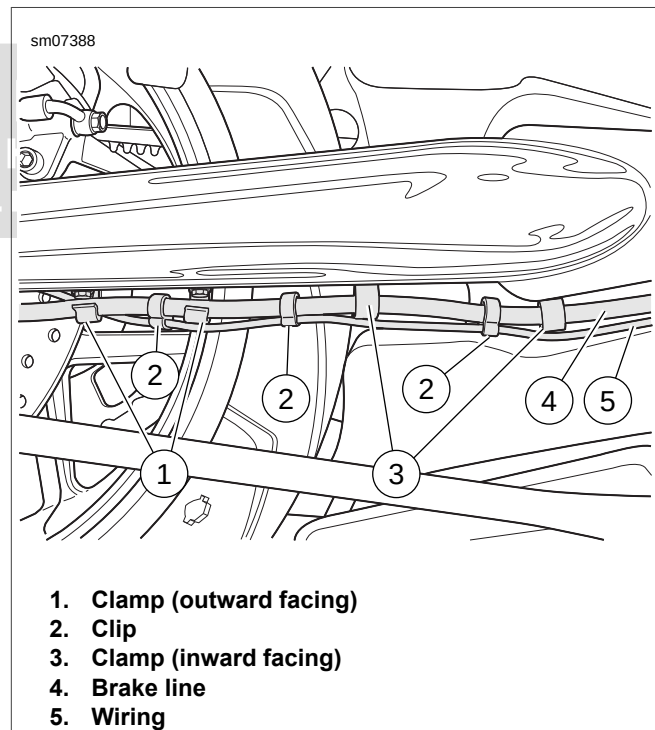
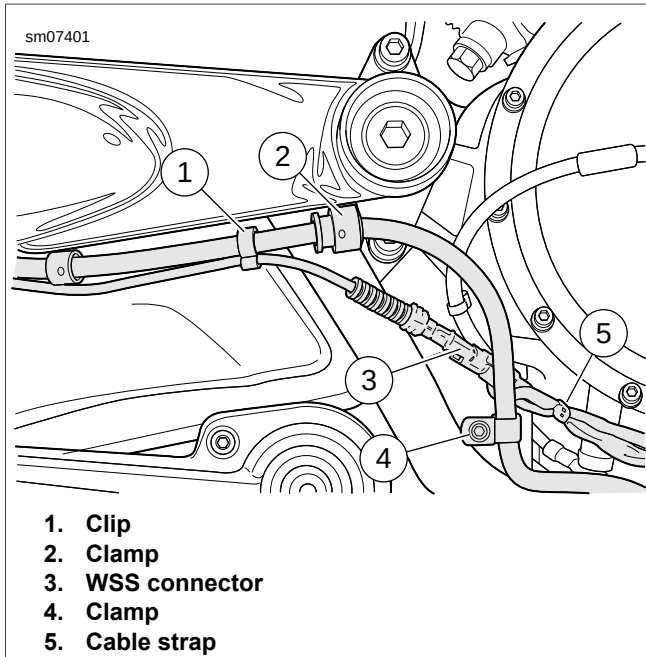

Figure C-17. Brake Line (Rear Fork)
Figure C-18. Wheel Speed Sensor (WSS) Connector
4. See Figure C-17. Route brake line (4) and wiring (5). Attach to rear fork as shown. Clamps (1) face away from vehicle and clamps (3) face towards vehicle.
6. Attach clips (2) as shown.
7. See Figure C-18. Install clamp (2). Tighten clamp fastener to 5-7 Nm (44.2-61.9 **in-lbs**).
8. Attach clip (1).
9. Install brake line in clamp (4) using clamp fastener. Tighten to 6-10 Nm (53.1-88.4 **in-lbs**).
10. Wrap the cable strap (5) around the brake line, WSS wiring and clutch line.